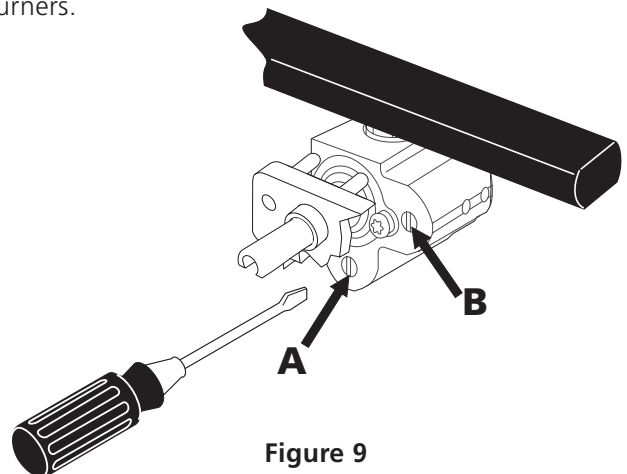

Figure 9
10.5 Adjust the "LOW" setting of the dual valve (Figure 9)